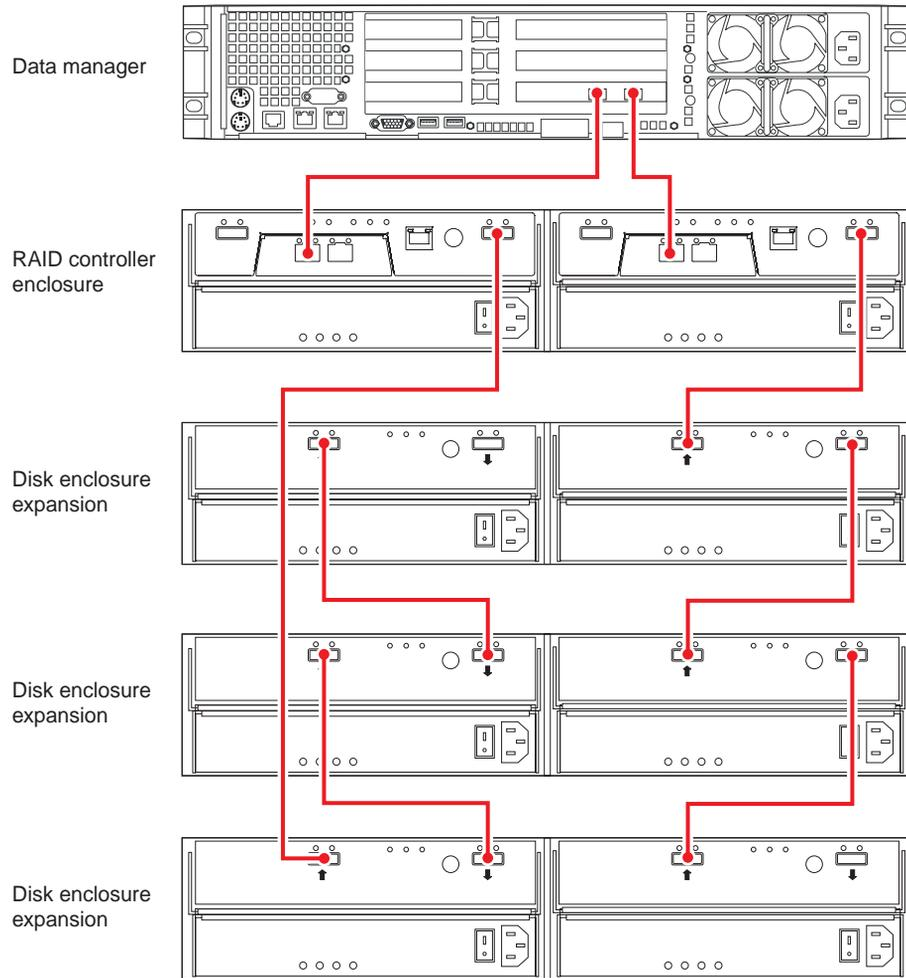

Figure 1-17 Data Manager, Dual-Controller RAID Enclosure and Three Disk Expansion Units
Use the following steps and Figure 1-17 to cable a data manager to a dual-controller RAID enclosure and three disk expansion enclosures. This procedure is applicable to both SATA and SAS based InfiniteStorage NEXIS 2000 products.
1. Connect the Data Manager's Fibre Channel PCI card port A to the left-side RAID controller's host 1 port in the controller enclosure, see Figure 1-17.
6. Connect the right-side RAID controller's expansion connector (far right) to the first disk expansion enclosure's right-side input connector, see Figure 1-17.